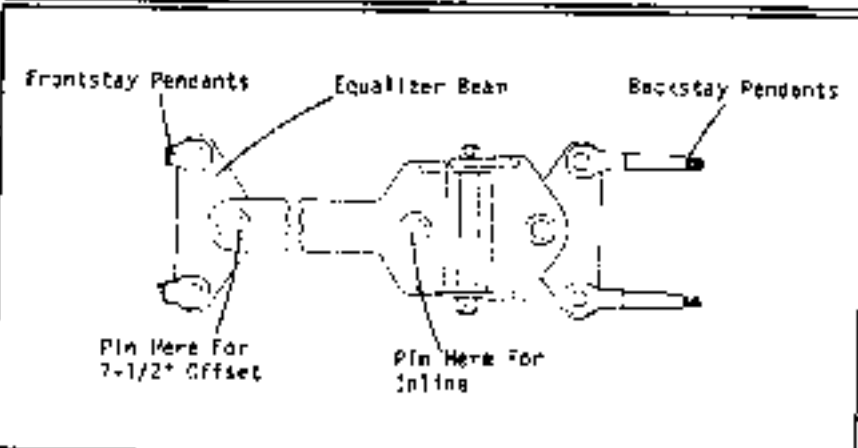

Fig. 4-45
Step 10: Remove pin securing the jib mast in the stowed position. Pin the adjustable equalizer to the bridge assembly in either the in-line, or the 7-1/2° offset position. Refer to Fig. 4-45.